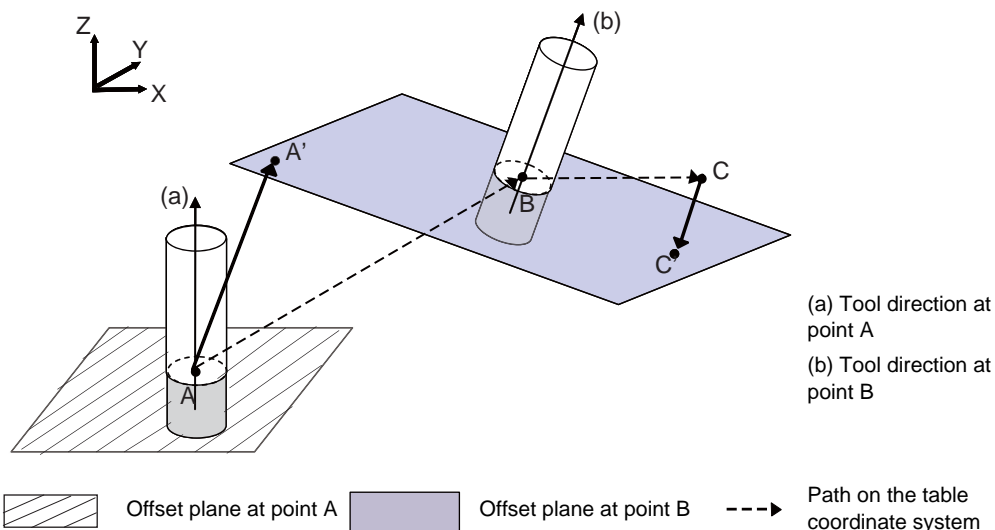

Fig. 2 Conversion into the points on the offset plane
- (2) Reflect the obtained path on the table coordinate system onto the offset plane (vertical to the tool axis direction at the compensation point) and calculate the points (A' and C' in Fig. 2) on the offset plane.